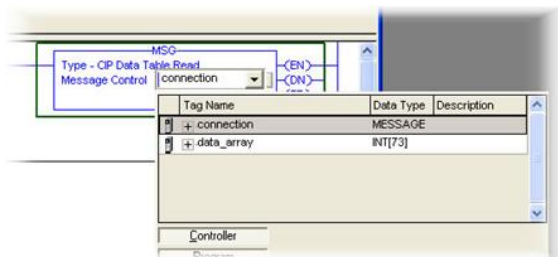

Figure 47: MSG Instruction Tag Assignment
- a) Edit the "Message Control" field on the MSG instruction to use the previously-created "connection" tag. Refer to Figure 47.